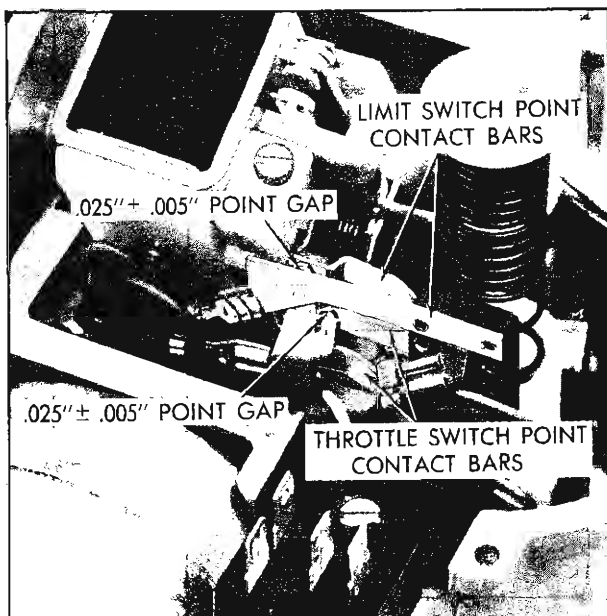

Fig. 75—Limit Switch and Throttle Switch Adjustment
4. Using a feeler gauge, measure gap opening between points of limit switch and throttle switch, Figure 75. This gap must be  $.025$  inch  $\pm .005$  inch. If gap is not within specifications, bend inboard point contact bar of limit switch until proper gap is obtained and points are aligned.